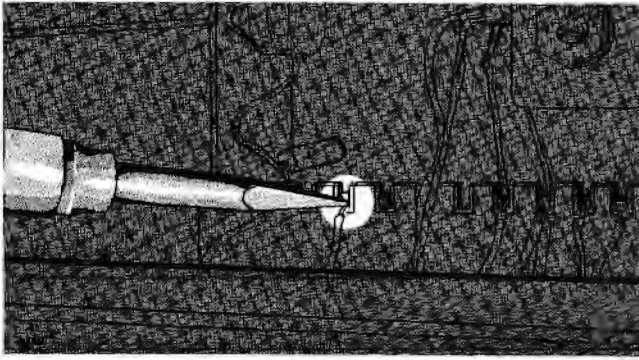

Fig. 5-2. Correct method of applying heat in soldering to a ceramic strip.
4. Apply one corner of the tip to the notch where you wish to solder (see Fig. 5-2).